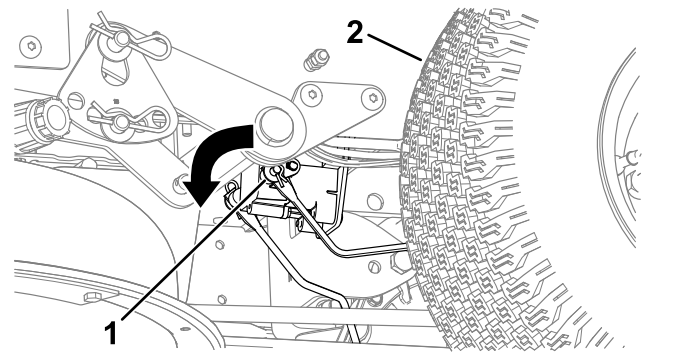

Figure 46
3. Locate the shaft on the electric brake where the brake link arms are connected (Figure 46).